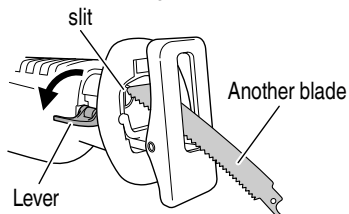

Fig. 12
- (1) If a part of the broken saw blade is sticking out of the small slit of the blade holder, pull out the protruding part and take the blade out.
- (2) If the broken saw blade is hidden inside the small slit, hook the broken blade using a tip of another saw blade and take it out. (Fig. 12)